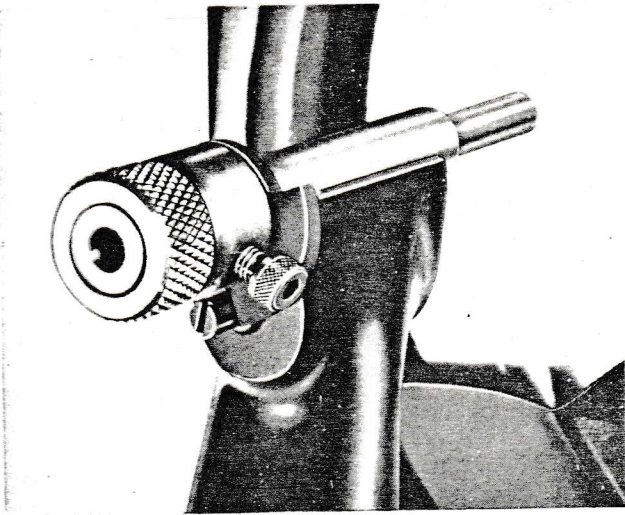
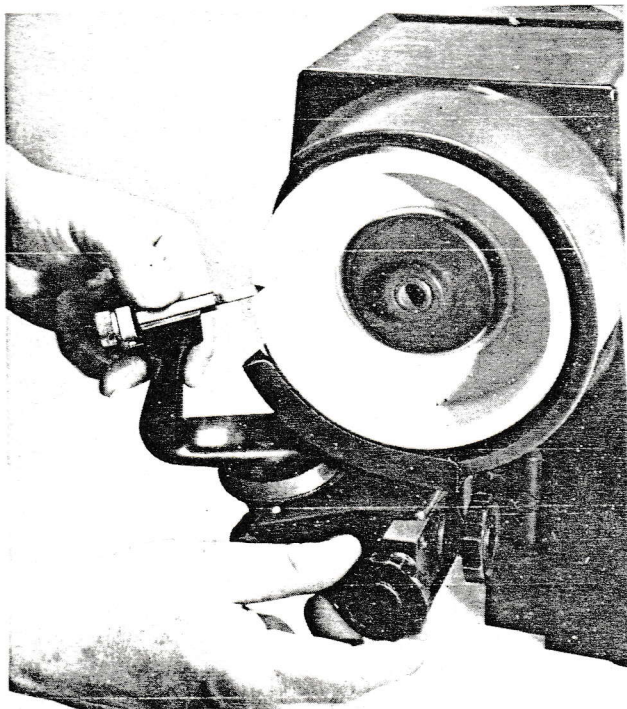

FIGURE 9
FIGURE 11
Grinding Pointed Cutters (Figures 9, 10 and 11)
- (1) Unlock the crutch clamp screw and adjust the crutch to the required cutting angle on the graduated scale then re-lock the clamp screw.
- (2) Locate the cutter holder in the 'Vee' section of the crutch (Figure 9) and rotate it anti-clockwise until the cam abuts against the stop pin (Figure 11).
- (4) Rock the crutch forward with the left-hand and ensure that the cutter point passes clearly over the grinding face of the wheel. Adjustment of the two top screws may be necessary.
- (5) Holding the cutter holder as shown in Figure 11, switch on the machine and turning the feed screw with the right-hand feed the cutter in towards the grinding face.
- (6) Produce a series of flats on the curved surface of the cutter by rotating the cutter holder a little at a time in a clockwise direction whilst clear of the wheel and after each return movement of the crutch.
- (7) Continue grinding in this manner, returning the cam-stop to the stop pin before applying more feed, until the required dimension is reached.
- (8) Finally produce a smooth cone by rotating the cutter against the face of the wheel and applying sufficient feed to just take out the flats formed by previous grinding.
- (1) Unlock the crutch clamp screw and set the crutch to the 'O' graduation or slightly beyond to give a back clearance, then lock the crutch with the clamp screw.
- (2) Hold the cutter as shown in Figure 11.
- (3) Proceed as instructed for pointed cutters until the required diameter is reached.
- (4) Unclamp the crutch, reset the angle to position 'T' and reclamp the crutch.
- (5) Grind off the end of the cutter obliquely.